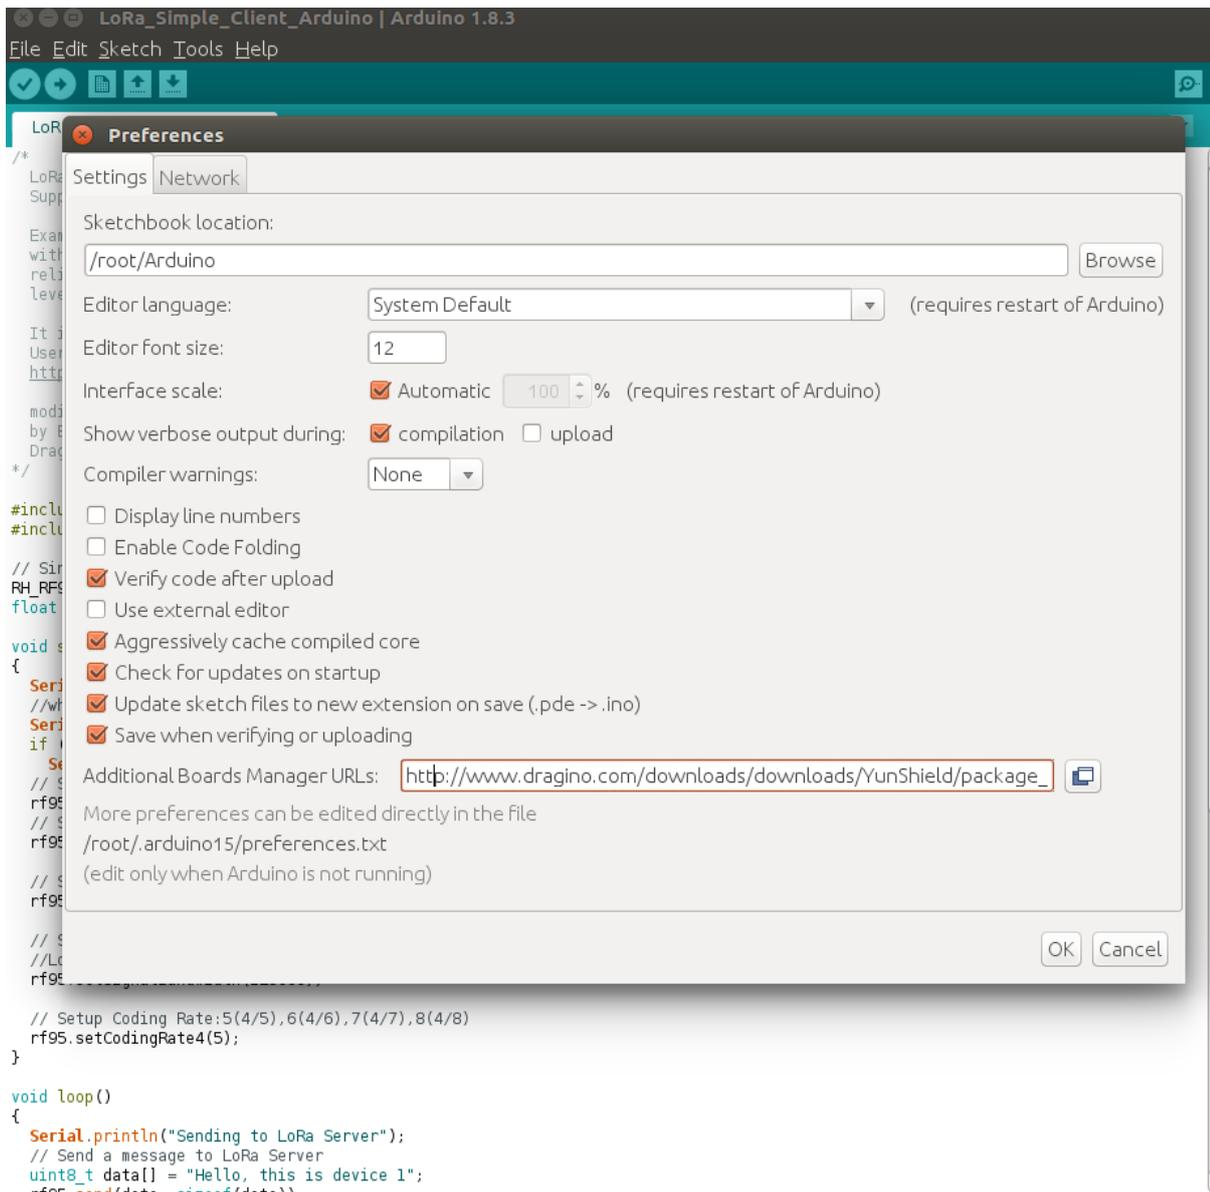

Figure 4 : Ajout d'un gestionnaire de carte.
2. Dans la partie **Additional Boards Manager URLs** (Fig. 4), ajouter le lien [http://www.dragino.com/downloads/downloads/YunShield/package\\_dragino\\_yun\\_test\\_index.json](http://www.dragino.com/downloads/downloads/YunShield/package_dragino_yun_test_index.json)